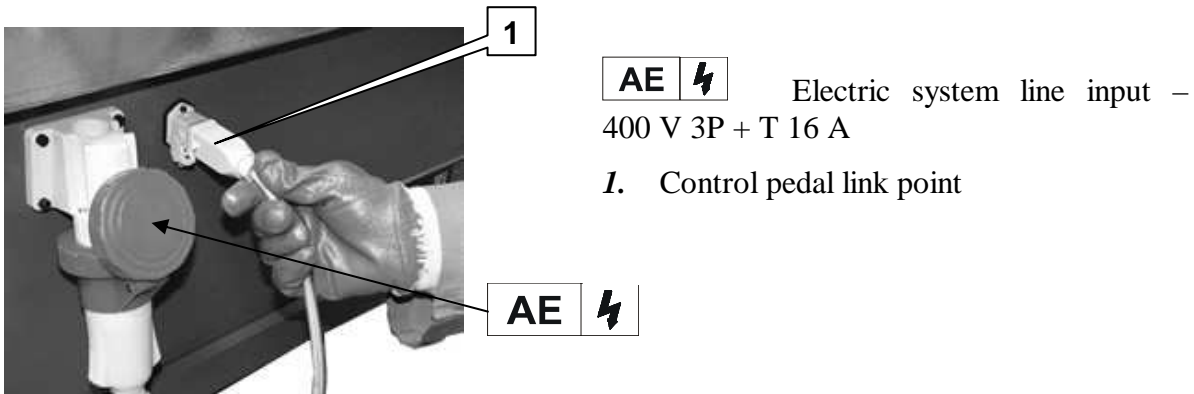

Fig. 3.12 –Link and connection points
- to arrange the electric system line in order to reach the chosen connecting point, stated in fig. 3.12;
- to connect the control pedal as stated in fig. 3.12.